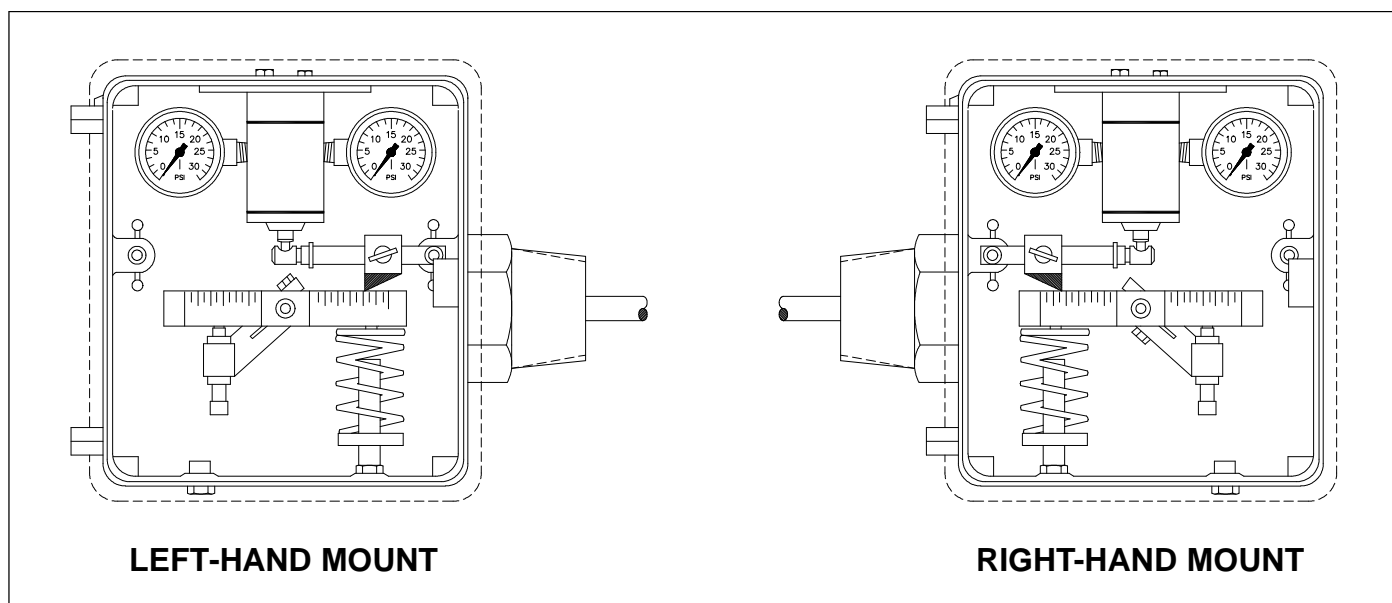

Figure 5. Controller Mounting
7. Determine mounting orientation (See Figure 5).
The Series 3201 Liquid Level Controller can be set up as right-hand mount or left-hand mount. The orientation of the level controller mounted to the vessel, while facing the front of the controller, determines the mounting style (Figure 5). If the controller is to be mounted on the right side of the